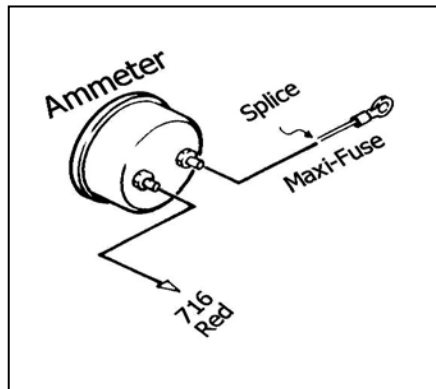

Figure 7.1 Ammeter & Maxi-Fuse
7.3 Connecting an Ammeter and the Maxi-Fuse. See Figure 7.1.